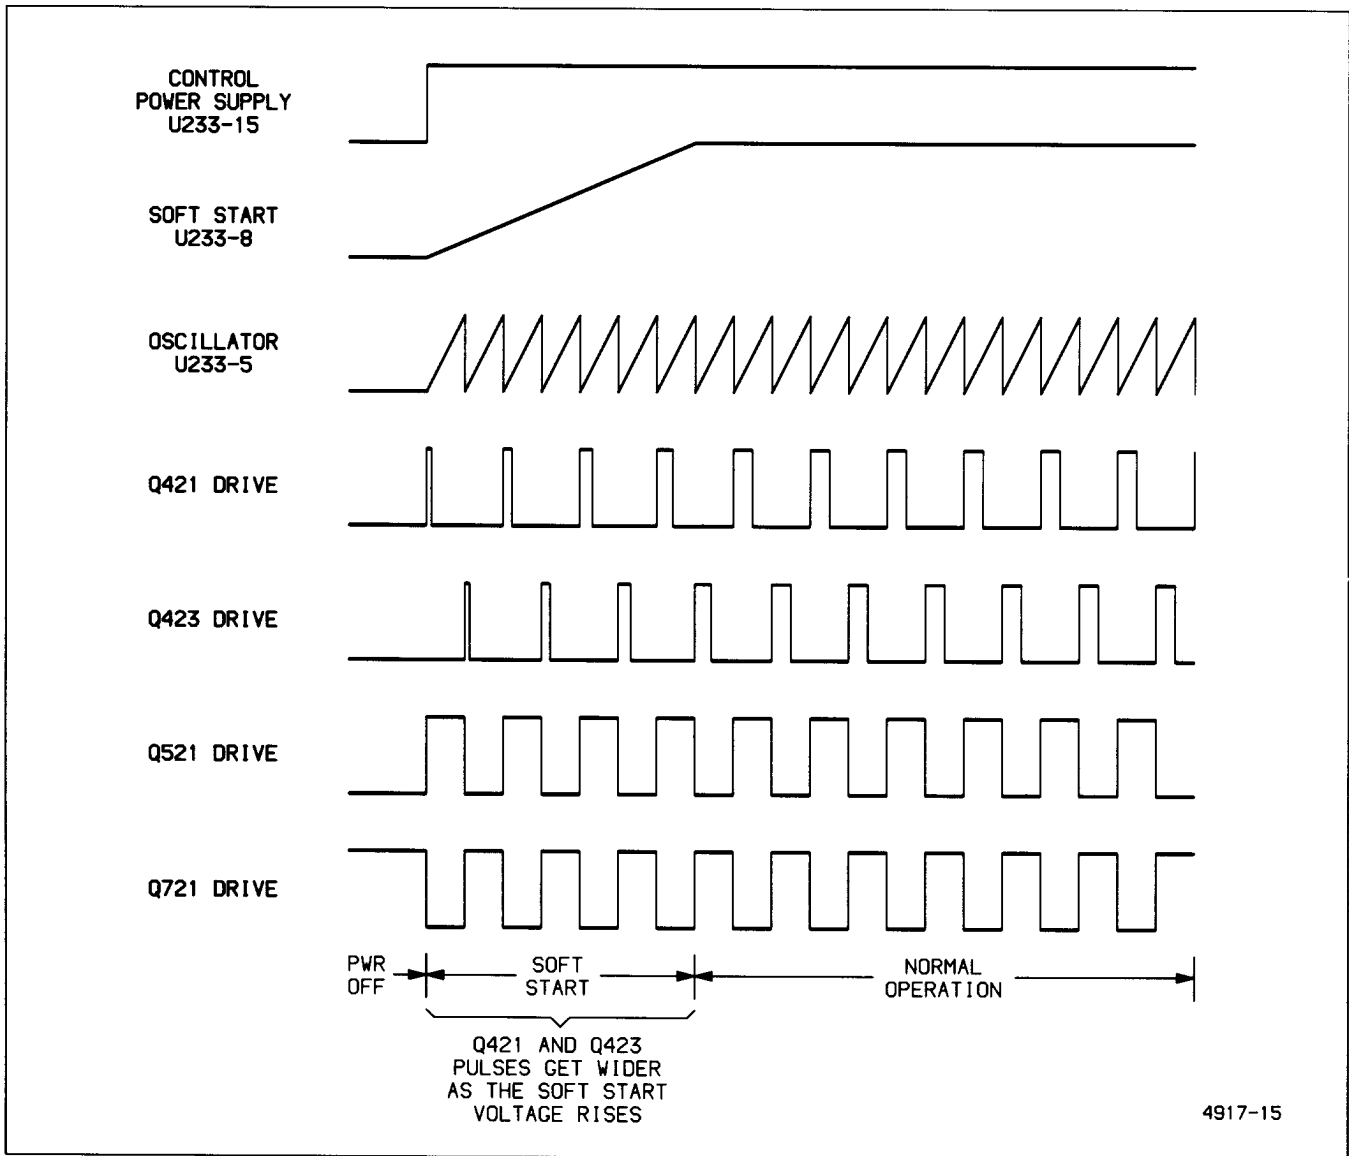

Figure 3-16. PWM switching waveforms.
**PREREGULATOR START-UP.** As the supply for the Preregulator control IC is established, an internal oscillator begins to run. The oscillator generates a repetitive triangular wave (as shown in Figure 3-16) at a frequency determined primarily by R228 and C227 (with R227 having a minor effect since it controls the discharge time of timing capacitor C227).